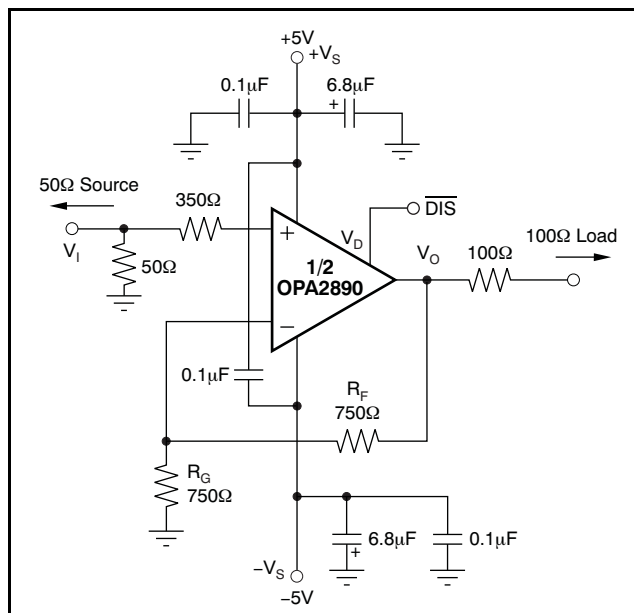
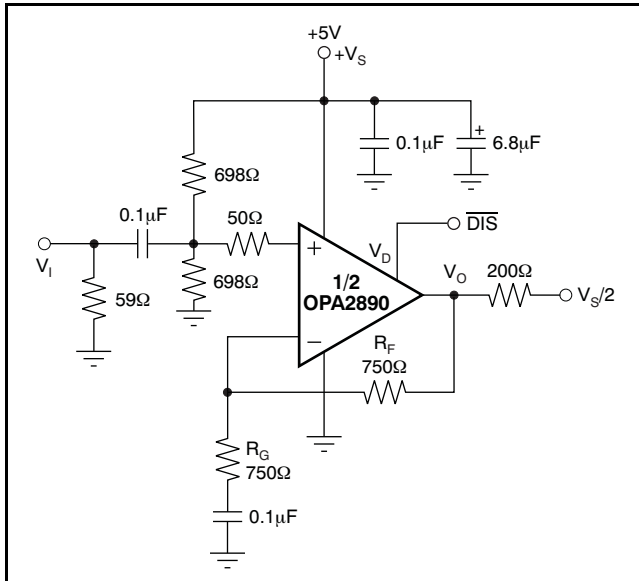
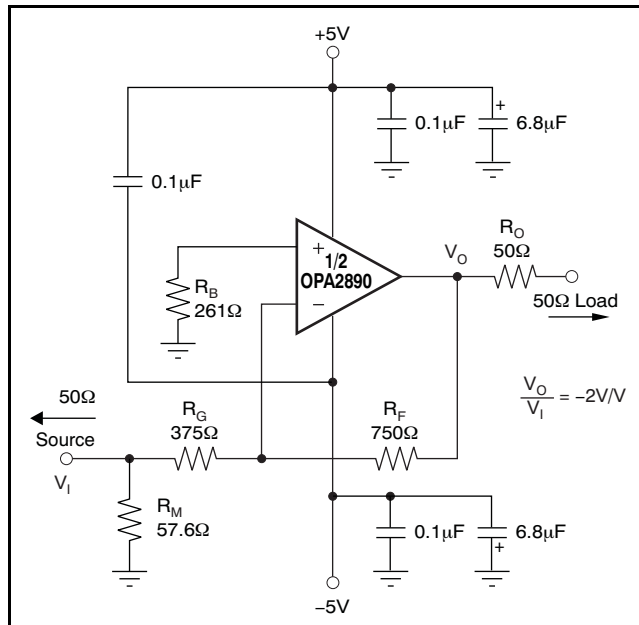

Figure 49. DC-Coupled, G = +2V/V, Bipolar Supply, Specification and Test Circuit
Figure 50. DC-Coupled, $G = +2V/V$, Single-Supply, Specification and Test Circuit
Figure 59. Gain of $-2V/V$ Example Circuit
At $T_A = +25^\circ\text{C}$, $G = +2V/V$, $R_F = 750\Omega$, and $R_L = 200\Omega$, unless otherwise noted. See Figure 49.
At $T_A = +25^\circ C$, $G = +2V/V$, $R_F = 750\Omega$, and $R_L = 200\Omega$, unless otherwise noted. See Figure 49.
Figure 49 shows the DC-coupled, gain of +2V/V, dual power-supply circuit configuration used as the basis of the ±5V Electrical Characteristics and Typical Characteristics. This illustration is for one channel; the other channel is connected similarly. For test purposes, the input impedance is set to 50Ω with a resistor to ground and the output impedance is set to 200Ω. Voltage swings reported in the Electrical Characteristics are taken directly at the input and output pins, while output powers (dBm) are at the matched 50Ω load. For the circuit of Figure 49, the total effective load is 200Ω || 1.5kΩ. The disable control line (MSOP-10 package only) is typically left open for normal amplifier operation. Two optional components are included in Figure 49. First, an additional resistor (350Ω) is included in series with the noninverting input. Combined with the 25Ω dc source resistance looking back towards the signal generator, this resistor gives an input bias current cancelling resistance that matches the 750Ω source resistance seen at the inverting input (see the DC Accuracy and Offset Control section). In addition to the usual power-supply decoupling capacitors to ground, a 0.1μF capacitor is also included between the two power-supply pins. In practical printed circuit board (PCB) layouts, this optional capacitor typically improves the 2nd-harmonic distortion performance by 3dB to 6dB.
Figure 50 illustrates the ac-coupled, gain of +2V/V, single-supply circuit configuration used as the basis of the +5V Electrical Characteristics and Typical Characteristics. Though not a rail-to-rail design, the OPA2890 requires minimal input and output voltage headroom compared to other very wideband voltage-feedback op amps. It delivers a 3V_{PP} output swing on a single +5V supply with greater than 80MHz bandwidth. The key requirement of broadband single-supply operation is to maintain input and output signal swings within the usable voltage ranges at both the input and the output. The circuit of Figure 50 establishes an input midpoint bias using a simple resistive divider from the +5V supply (two 698Ω resistors). Separate bias networks would be required at each input. The input signal is then ac-coupled into the midpoint voltage bias. The input voltage can swing to within 1.5V of either supply pin, giving a 2V_{PP} input signal range centered between the supply pins. The input impedance matching resistor (59Ω) used for testing is adjusted to give a 50Ω input load when the parallel combination of the biasing divider network is included.
A good rule of thumb is to target the parallel combination of R_F and R_G (see Figure 49) to be less than approximately 400Ω. The combined impedance $R_F \parallel R_G$ interacts with the inverting input capacitance, placing an additional pole in the feedback network and thus, a zero in the forward response. Assuming a 2pF total parasitic on the inverting node, holding $R_F \parallel R_G < 400\Omega$ keeps this pole above 160MHz. By itself, this constraint implies that the feedback resistor R_F can increase to several kΩ at high gains. This increase in resistor size is acceptable as long as the pole formed by R_F and any parasitic capacitance appearing in parallel is kept out of the frequency range of interest.
Voltage-feedback op amps exhibit decreasing closed-loop bandwidth as the signal gain increases. In theory, this relationship is described by the Gain Bandwidth Product (GBP) shown in the Electrical Characteristics. Ideally, dividing GBP by the noninverting signal gain (also called the Noise Gain, or NG) predicts the closed-loop bandwidth. In practice, this principle only holds true when the phase margin approaches 90°, as it does in high gain configurations. At low gains (increased feedback factors), most amplifiers exhibit a more complex response with lower phase margin. The OPA2890 is compensated to give a slightly peaked response in a noninverting gain of 2V/V (see Figure 49). This compensation results in a typical gain of +2V/V bandwidth of 100MHz, far exceeding that predicted by dividing the 60MHz GBP by 2. Increasing the gain causes the phase margin to approach 90° and the
The frequency response in a gain of +2V/V may be modified to achieve exceptional flatness simply by increasing the noise gain to 2.5V/V. One way to modify the response without affecting the +2V/V signal gain, is to add an 1.5kΩ resistor across the two inputs, as illustrated in the circuit of Figure 49. A similar technique may be used to reduce peaking in unity-gain (voltage follower) applications. For example, by using a 750Ω feedback resistor along with a 750Ω resistor across the two op amp inputs, the voltage follower response is similar to the gain of +2V/V response of Figure 50. Reducing the value of the resistor across the op amp inputs further limits the frequency response due to increased noise gain.
The OPA2890 is a general-purpose, wideband, voltage-feedback op amp; therefore, all of the familiar op amp application circuits are available to the designer. Inverting operation is one of the more common requirements and offers several performance benefits. See Figure 59 for a typical inverting configuration where the I/O impedances and signal gain from Figure 49 are retained in an inverting circuit configuration.
The second major consideration, touched on in the previous paragraph, is that the signal source impedance becomes part of the noise gain equation and influences the bandwidth. For the example in Figure 59, the R_M value combined in parallel with the external 50Ω source impedance yields an effective driving impedance of $50\Omega \parallel 57.6\Omega = 26.7\Omega$. This impedance is added in series with R_G for calculating the noise gain (NG). The resultant NG is 2.86V/V for Figure 59, as opposed to only 2V/V if R_M could be eliminated as discussed above. Therefore, the bandwidth is slightly lower for the gain of $-2V/V$ circuit of Figure 59 than for the gain of $+2V/V$ circuit of Figure 49.
signal reaches very high frequency or power levels, the 2nd harmonic dominates the distortion with a negligible 3rd harmonic component. Focusing then on the 2nd harmonic, increasing the load impedance improves distortion directly. Remember that the total load includes the feedback network; in the noninverting configuration (see Figure 49), this value is the sum of $R_F + R_G$, while in the inverting configuration it is only R_F . Also, providing an additional supply-decoupling capacitor (0.1μF) between the supply pins (for bipolar operation) improves the 2nd-order distortion slightly (3dB to 6dB). Operating differentially also lowers 2nd-harmonic distortion terms (see the plot on the front page).
Evaluating these two equations for the OPA2890 circuit and component values (see Figure 49) gives a total output spot noise voltage of 17.5nV/√Hz and a total equivalent input spot noise voltage of 8.7nV/√Hz. This result includes the noise added by the bias current cancellation resistor (350Ω) on the noninverting input. This total input-referred spot noise voltage is only slightly higher than the 8nV/√Hz specification for the op amp voltage noise alone. This result is the case as long as the impedances appearing at each op amp input are limited to the previously recommend maximum value of 400Ω. Keeping both ($R_F \parallel R_G$) and the noninverting input source impedance less than 400Ω satisfies both noise and frequency response flatness considerations. Because the resistor-induced noise is relatively negligible, additional capacitive decoupling across the bias current cancellation resistor (R_B) for the inverting op amp configuration of Figure 59 is not required.
The balanced input stage of a wideband voltage-feedback op amp allows good output dc accuracy in a wide variety of applications. The power-supply current trim for the OPA2890 gives even tighter control than comparable amplifiers. Although the high-speed input stage does require relatively high input bias current (typically 5µA out of each input terminal), the close matching between them may be used to reduce the output dc error caused by this current. The total output offset voltage may be considerably reduced by matching the dc source resistances appearing at the two inputs. This matching reduces the output dc error resulting from the input bias currents to the offset current times the feedback resistor. Evaluating the configuration of Figure 49, and using worst-case +25°C input offset voltage and current specifications, gives a worst-case output offset voltage equal to:
As a worst-case example, compute the maximum T_J using an OPA2890ID (SO-8 package) in the circuit of Figure 49 operating at the maximum specified ambient temperature of +85°C and with both outputs driving a grounded 20 Ω load to +2.5V.